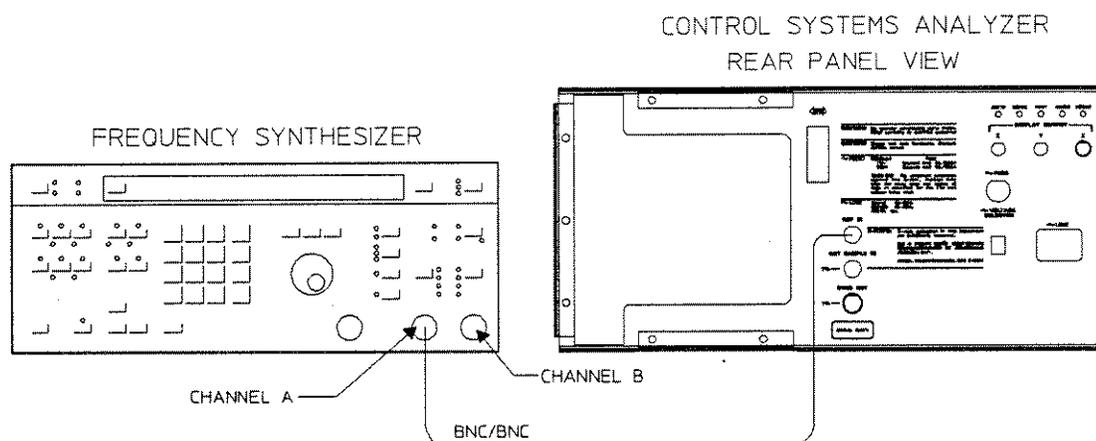

Figure 4-28. External Reference Test Setup
1. Connect the HP 3563A as shown in Figure 4-28.